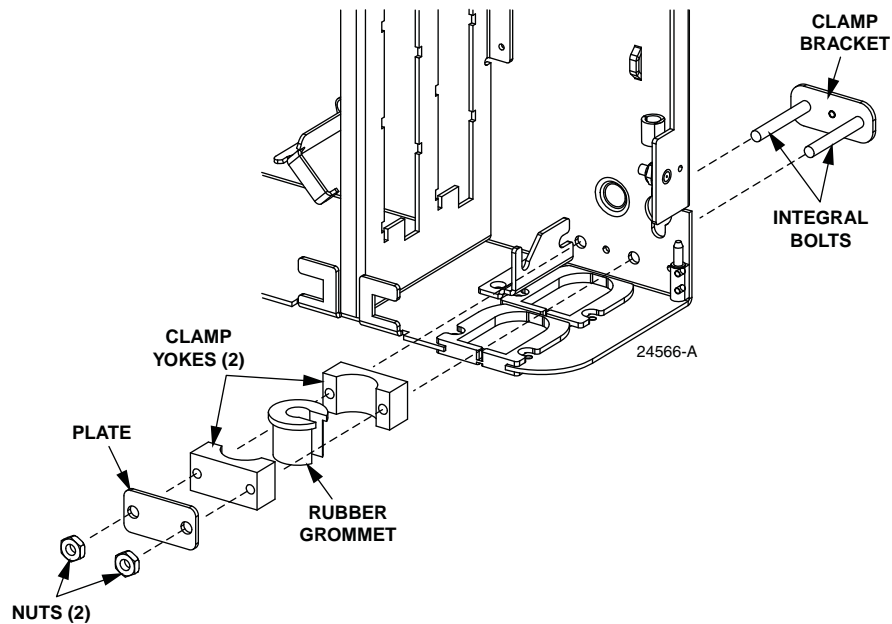

Figure 19. Cable Clamp Assembly (Select from Four Mounting Locations)
3. If using a cable clamp (Figure 19):
3. If using a cable clamp, refer to Figure 19 and associated text in the procedure above for the 12-fiber wall-mount box.